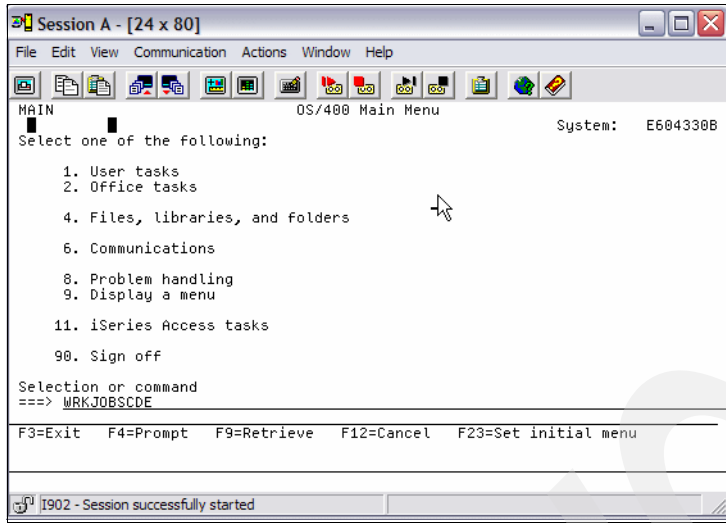

Figure 11-37 `wrkjobsjde -io-add`
- ▶ From the i5/OS main menu, run the command `wrkjobsjde` and press Enter, then press F6 to add the entry (Figure 11-37).